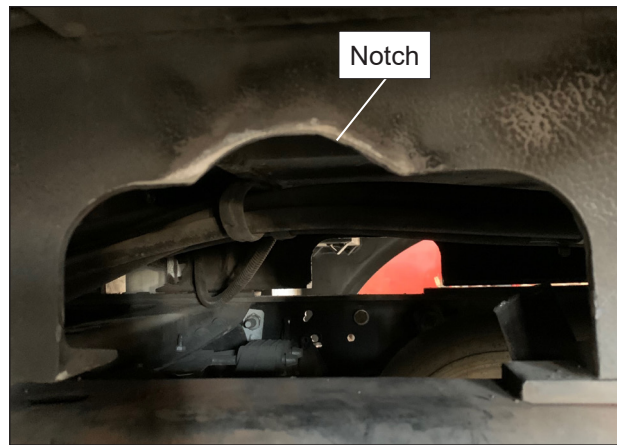

Figure 15 — Cutting Out Notch
23. Use a plasma cutter or acetylene torch to cut out the marked portion of the channel (refer to Figure 15).